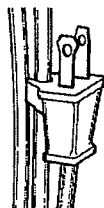

Figure 6
5. Secure the plug to the cord so it doesn't unravel. The rubber grip built onto the plug will fit around the cord and keep it in place. (See Figure 6.)